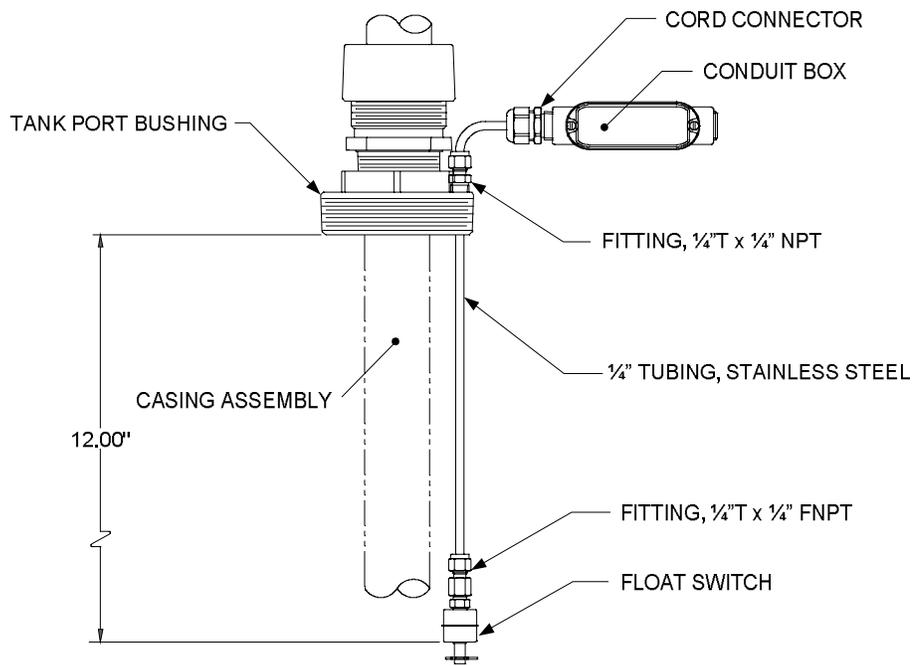

Figure 13: High level auxiliary switch installation
1. Verify that the high level switch assembly is installed in the tank port bushing. The installation should look similar to what is displayed in Figure 13. In this example a 12 inch switch installation is depicted.